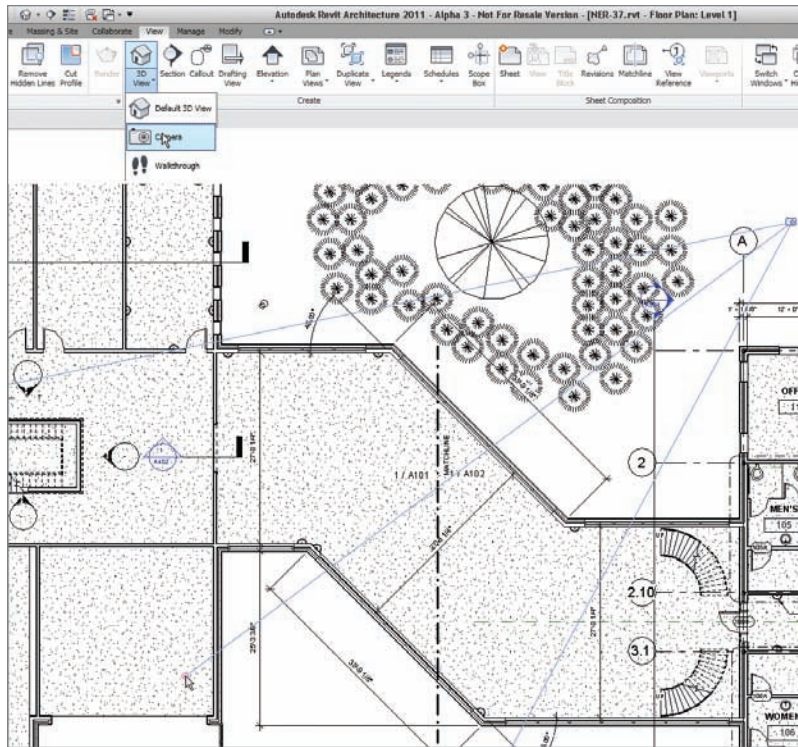

FIGURE 19.1 Creating the camera view
3. Add some curtain walls to the corridors, as shown in Figure 19.1. (Come on, I know you can do it.) These are Level 1 to Level 3 with a -6" offset from Level 3. You can use the Curtain Wall Storefront.
5. Create a camera view of the area shown in Figure 19.1.